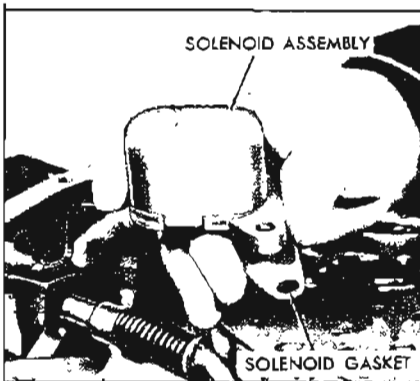

Figure 5-521
6. Remove the solenoid attaching screws, solenoid assembly and gasket. See Figure 5-521.